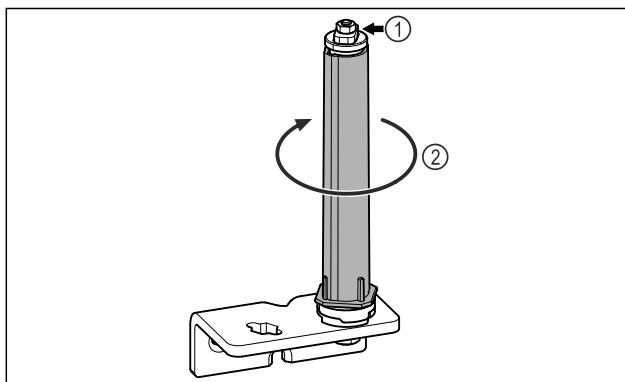

Fig. 29
- ▶ Do not disassemble the door locking system Fig. 29 (1).
- ▶ Turn the locking system Fig. 29 (2) until it clicks.